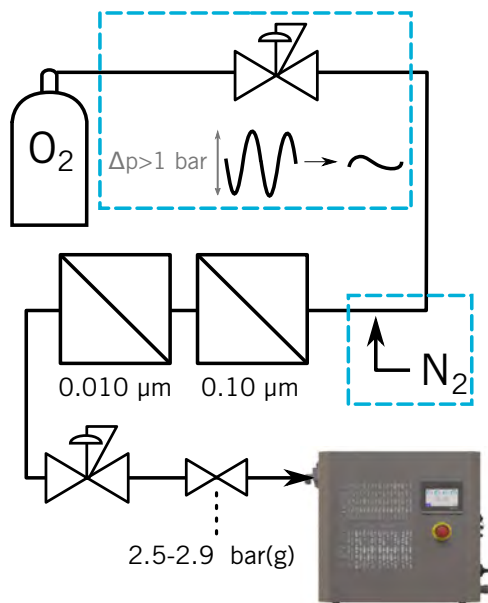

Figure 4 | Schematic overview of an oxygen line of a GM. The blue dashed lines signify optional or situational equipment.
- One additional pressure regulator, **if** pressure fluctuations exceed ~1.0 bar (15 psig) (see Figure 4 ► 16).
Technical specifications for the oxygen line are listed in 7.3 ► 37. A schematic of the upstream operations of a GM is displayed in Figure 4 ► 16. Follow the instructions below regarding upstream equipment:
4. If pressure fluctuations of more than 1 bar (14 psig) occur, install an additional pressure regulator before the filters, as displayed in Figure 4 ► 16.
1. Assemble all necessary upstream accessories according to Figure 4 ► 16.